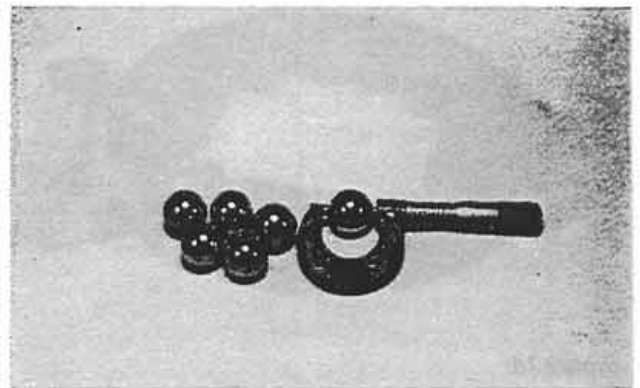

Figure 14:
7. Measure the actuator balls to insure roundness and equal size (Fig. 14). If out of round or badly pitted, replace all the balls in the actuator assembly.